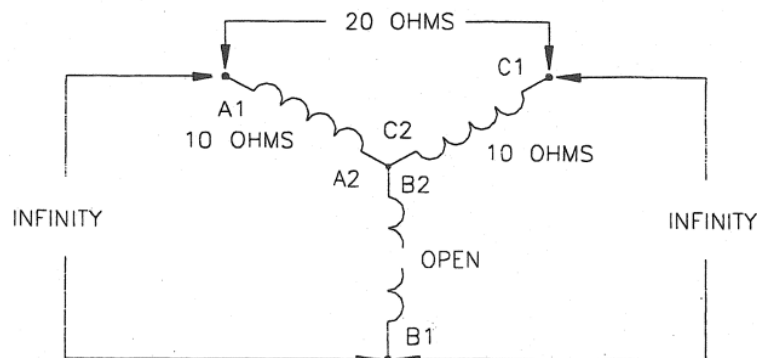

Figure 4 -
26. **Three Terminal Motor - Star Connected** If there is an open circuit in one of the phases of a star connected motor the resistance reading should be infinity between two pairs of terminals, and the resistance measured between the remaining two terminals should indicate the resistance of two phase windings in series - as shown in Figure 4.